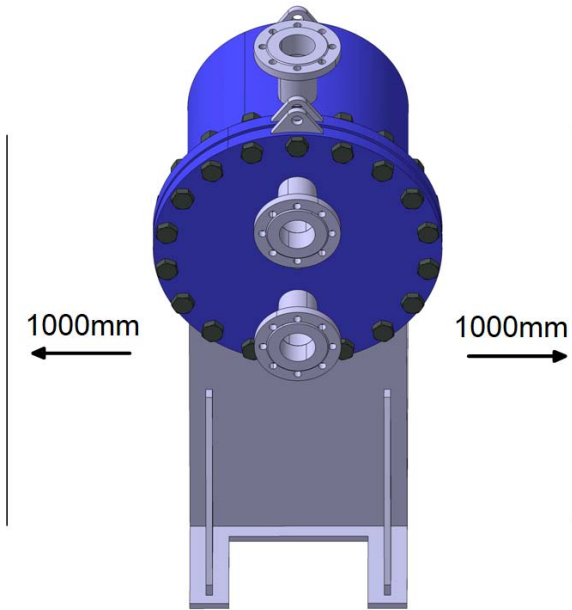

Figure 4. Required space from the sides
- It is necessary to leave a minimum of 1000 mm of free space between the heat exchanger and the walls to allow access to the heat exchanger for regular inspection and maintenance, as well as possible service interventions (Figure 4).